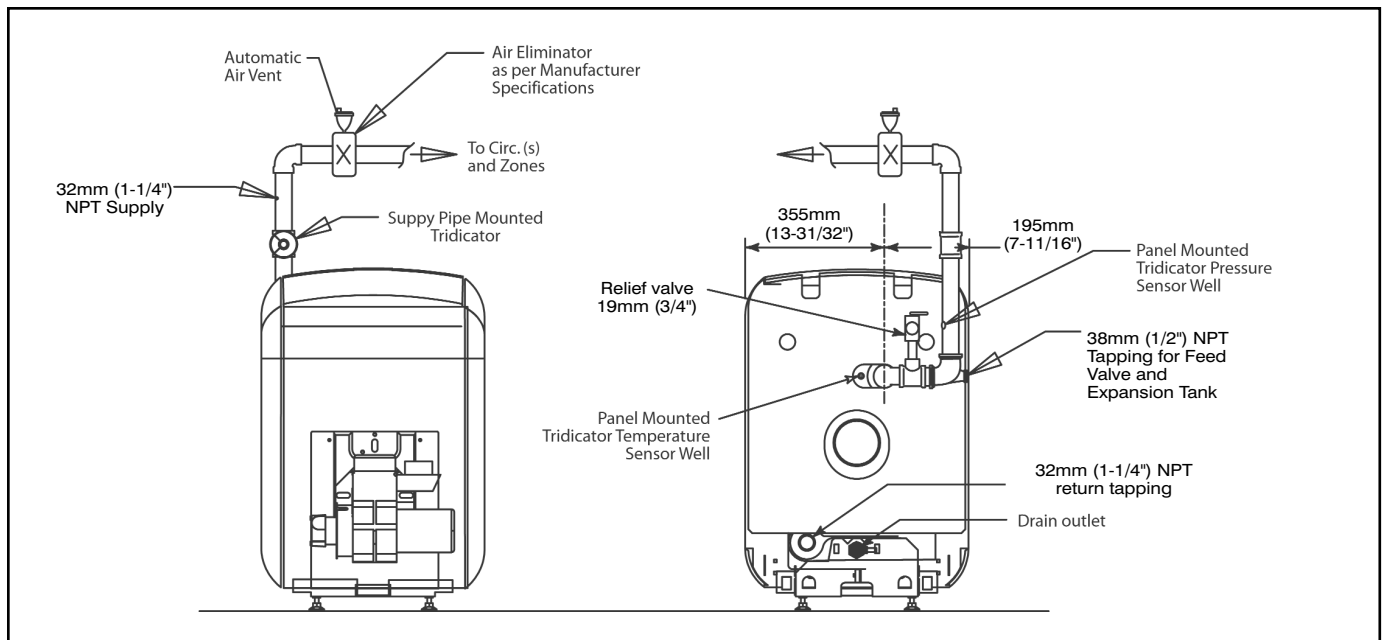

Figure 4. Air Eliminating System or Air Collecting System. Pipe off the relief valve and drain outlet to a safe place.
- A. **DIAPHRAGM-TYPE COMPRESSION TANKS** are used to control system pressure in an **AIR ELIMINATING SYSTEM**: an automatic air vent is used to REMOVE air from the system water. (See figure 4)
The automatic air vent should be installed in the top of the boiler, as in figure 4 and at radiation high points.
- D. **PUMP LOCATION** - Locating low-head pump(s) on return to boiler is only acceptable in residences of one or two stories. The pump location shown in figure 4 is required in large, multi-story building installations, especially when high-head pumps are used and is also recommended for all applications.